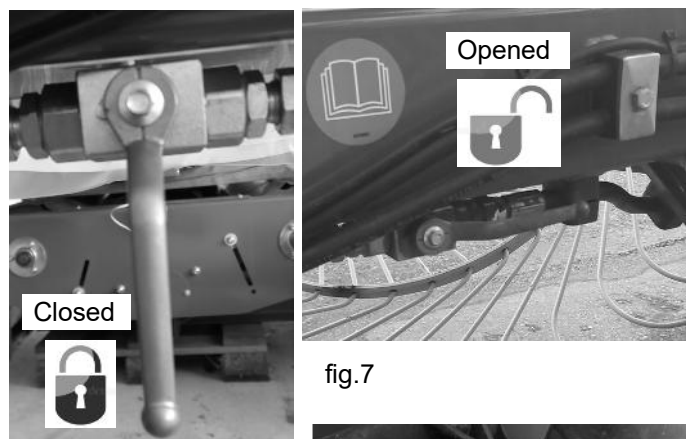

fig.7
- (in presence of kicker wheel) equipment right side under frame central spar – close the tap on the hydraulic circuit of the kicker wheel (fig.7);